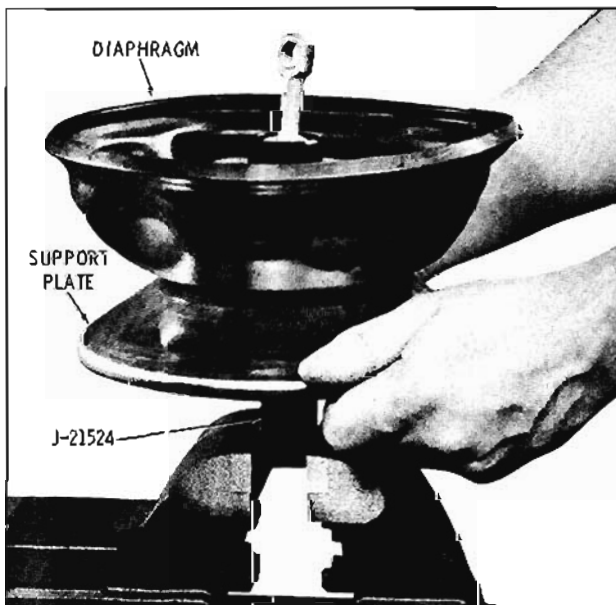

Fig. 11-33 Removing Support Plate
4. Fold the diaphragm away from the support plate so that the hands can grip the steel support plate and rotate support plate counterclockwise until the support plate separates from the vacuum piston. (Fig. 11-33)